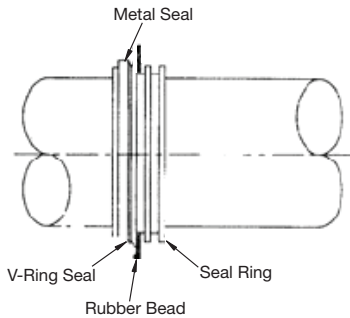

Figure 6
Drop-In Triple-Tect seals are preassembled at the factory. The Drop-In Triple-Tect seal assembly consists of a seal ring, V-ring seal, and metal seal with rubber bead (Figure 6).
1. Slide one of the Drop-In Triple-Tect seal assemblies on shaft to the proper location for assembly into the housing. The lip of the V-ring seal must face the bearing (Figure 6).